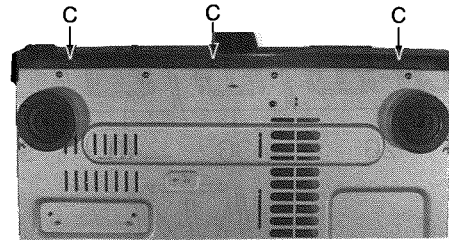

Fig.2
### (2) Front panel assembly removal (See Fig.2,3)